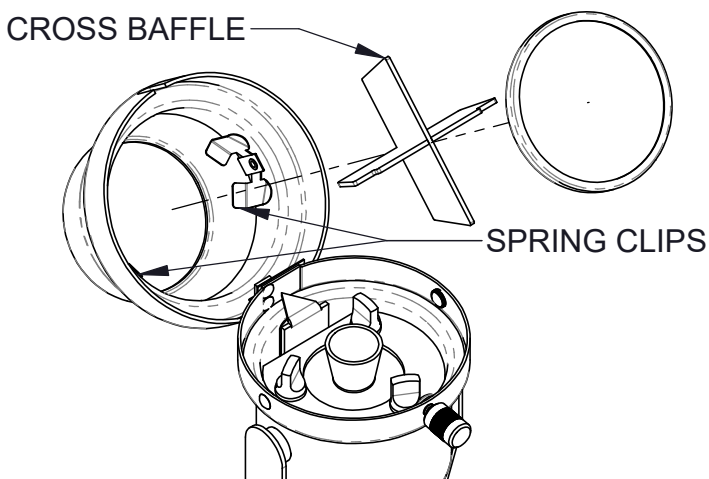

FIGURE 17. CROSS BAFFLE INSTALLATION SEQUENCE
4. PLACE CROSS BAFFLE STRAIGHT INTO FIXTURE FRONT BEING SURE TO AVOID INTERNAL SPRING CLIPS (FIG. 17).
5. REINSERT ACCESSORIES AND CLOSE THE FRONT OF THE FIXTURE (FIG. 17, 18).